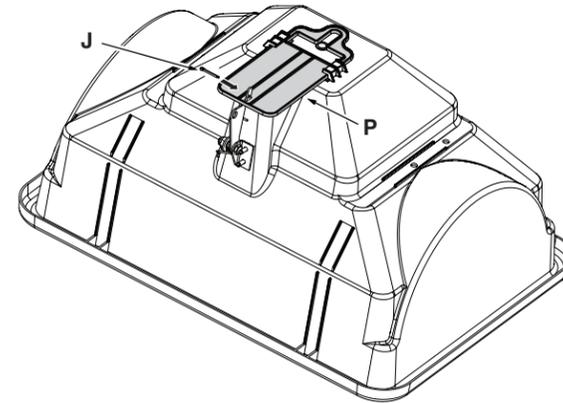

Figure 3
STEP 3: (SEE FIGURE 3)
- Insert the tab on the slide gate bracket into the notch in the flow plate (P). Secure with a 3/4" cotter pin (J) by bending the ends out.